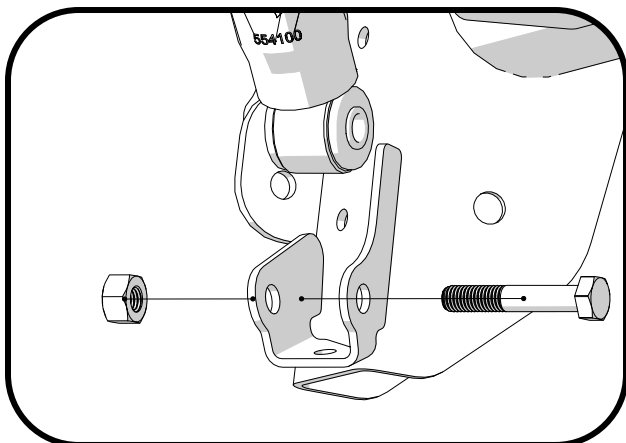

Figure 3
4. Install the bottom end of the shock into the shock bracket on the axle. Torque the bolt to 56 ft-lbs when the vehicle is sitting at ride height. (Figure 3 & 4)